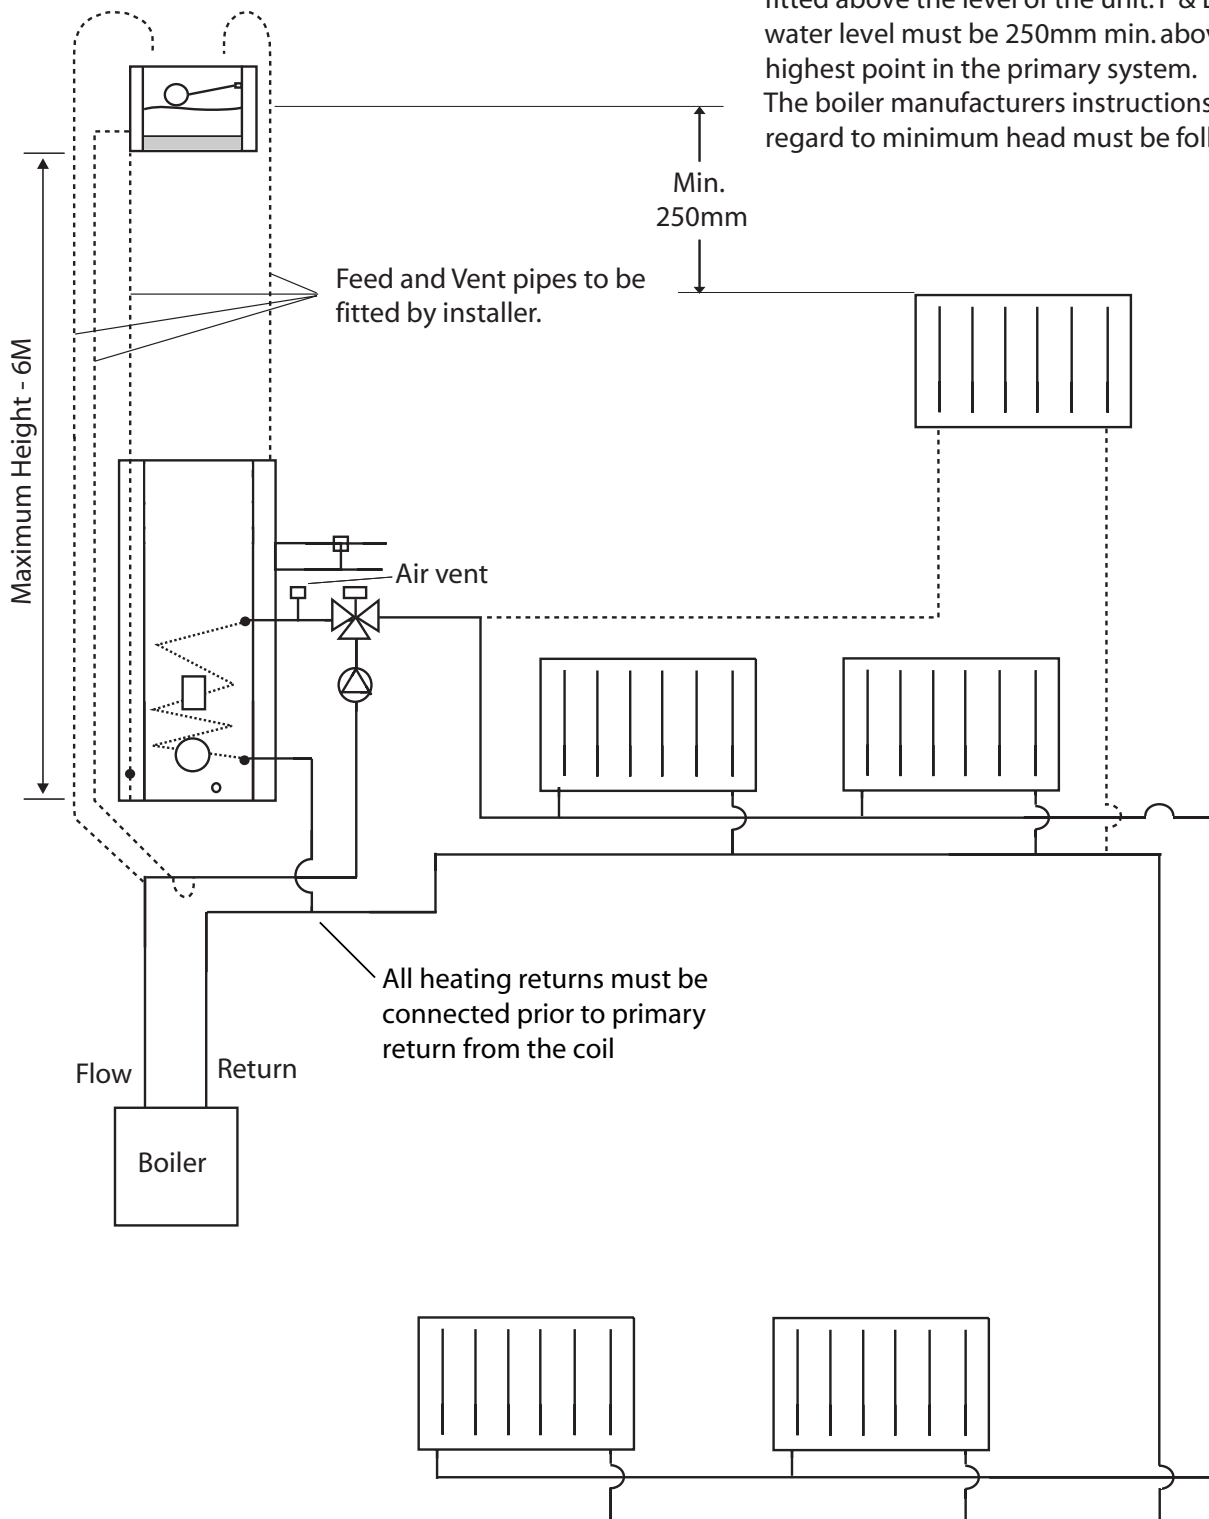

Figure 5
In an open-vented heating (Figure 5) the primary store and the heating circuit are filled from the same feed and expansion tank, supplied separately. Therefore the water treatment can be introduced through the feed and expansion tank. When calculating the quantity of water treatment, the volume of thermal store should be taken into account.
- 2) Any boiler can be used with Torrent- Indirect provided the flow pipe from the boiler to the Torrent is continuously rising. (Figure 5)
- 5) Where the radiators are to be fitted higher than the Torrent, then, the feed and expansion cistern can be sited at higher level but a maximum 6m from the base of the Torrent. The water level must be at least 250mm higher than the highest radiator in the system. (Figure 5)